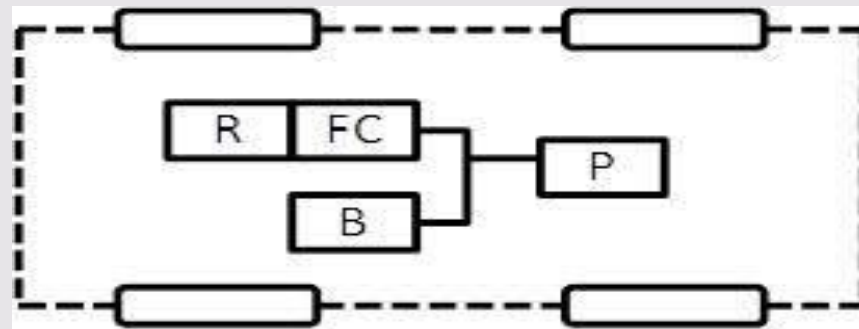

Figure 4d: EV configuration with multiple energy sources
- **Configuration 4:** Rather than storing it as a compressed gas, a liquid or a metal hydride, hydrogen can be generated on-board using liquid fuels such as methanol, **Figure 4d**. In this case a mini reformer is installed in the EV to produce necessary hydrogen gas for the fuel cell.